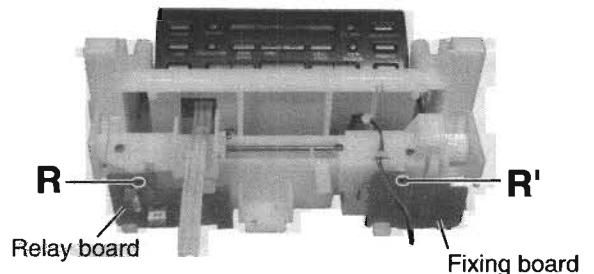

Fig.38
■ Removing the drive motor assembly (See Fig.38 to 40)